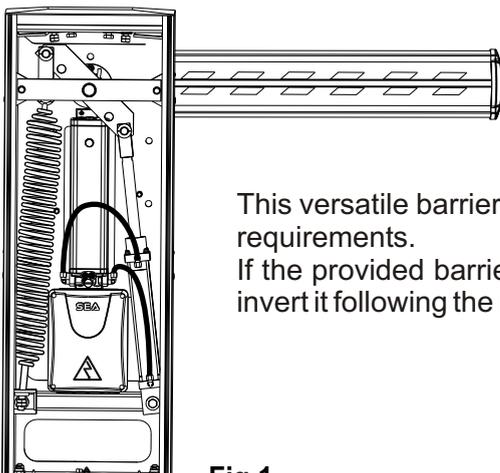

Fig.1
**N.B.:** The operator comes as shown in Fig.1 (Closing on the right hand side).
Barrier with right hand closing (Fig.1)